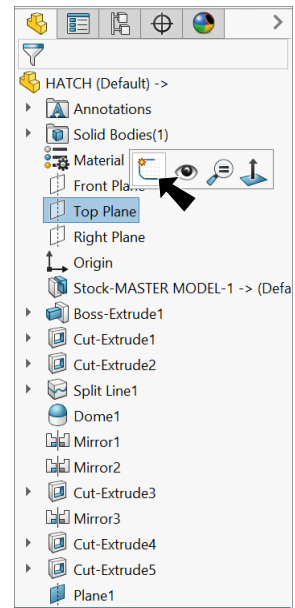

Fig. 78
- Step 1. Click **Top Plane**  in the Feature Manager and click **Sketch**  on the context toolbar, **Fig. 78**.